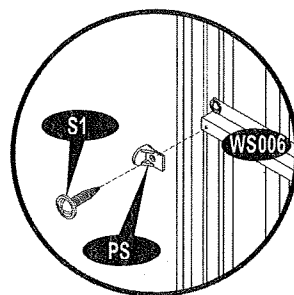

Fig. 2
4. Fix the plastic stopper (PS) to wall middle support center right (WS006) and secure with (S1) screw. See fig. 2.